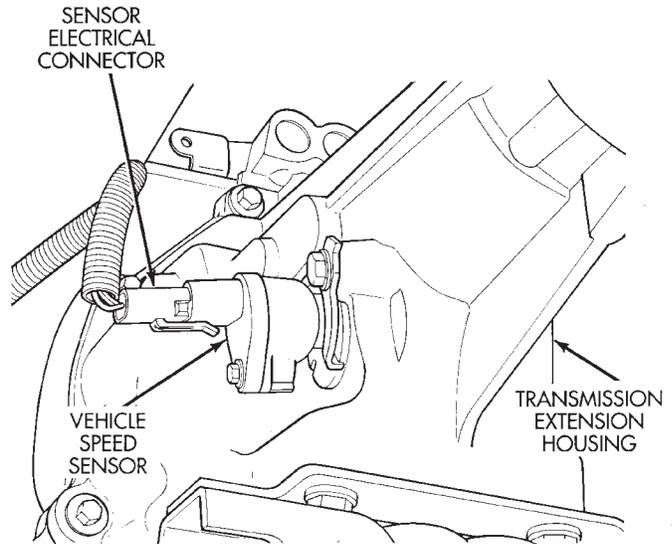
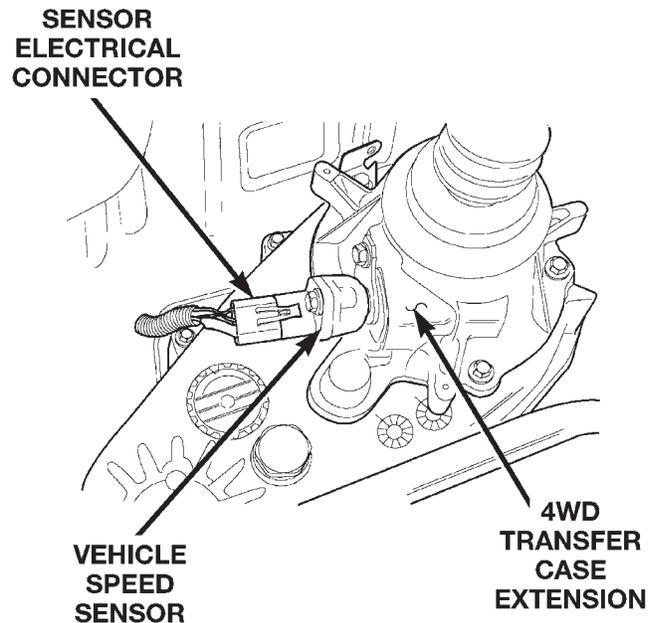

Fig. 43 Vehicle Speed Sensor—2WD—Typical
Fig. 44 Vehicle Speed Sensor—4WD—Typical
(23) Inspect for exhaust system restrictions such as pinched exhaust pipes, collapsed muffler or plugged catalytic convertor.
(24) If equipped with automatic transmission, verify that electrical harness is firmly connected to park/neutral switch. Refer to Automatic Transmission section of Group 21.
(25) Verify that the electrical harness connector is firmly connected to the vehicle speed sensor (Fig. 43) or (Fig. 44).
(26) Verify that fuel pump/gauge sender unit wire connector is firmly connected to harness connector.
(27) Inspect fuel hoses at fuel pump/gauge sender unit for cracks or leaks.